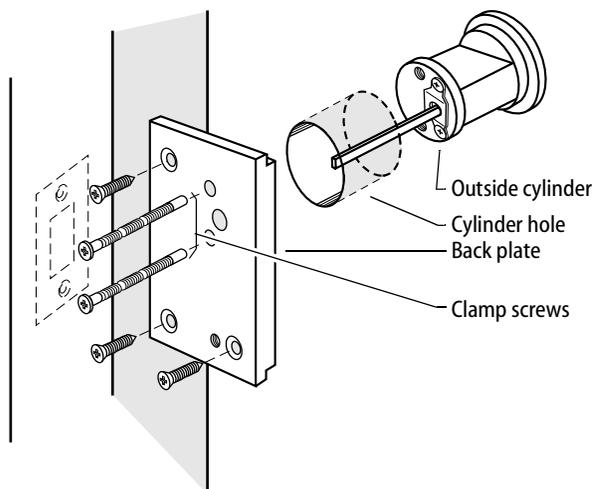

Figure 4 — Installing the outside cylinder
- 3 Install the back plate with the backplate mounting screws. See Figure 4.